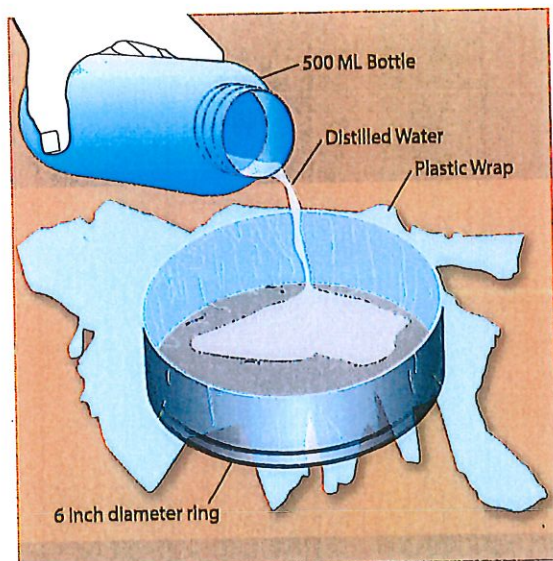

Figure 2
- Line the soil surface inside the ring with a sheet of plastic wrap to completely cover the soil and ring as shown in Figure 2. This procedure prevents disturbance to the soil surface when adding water.
- Fill the plastic bottle or graduated cylinder to the 444 mL (1 inch) mark with water. Pour the 444 mL of water (1 inch of water) into the ring lined with plastic wrap as shown in Figure 2.